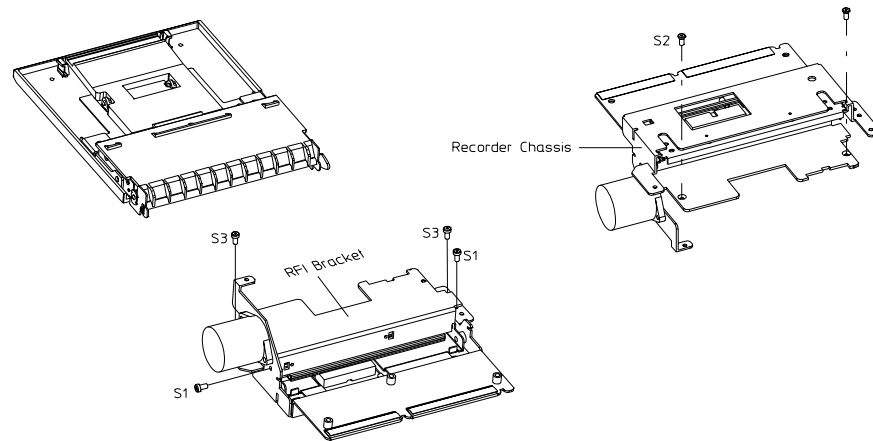

Figure 11-13 Removing the Paper Table
3. Remove the two countersunk screws (S2 Figure 11-13).
- a. Remove the two screws (S1 in Figure 11-13).
- a. Remove the two screws (S3 in Figure 11-13).